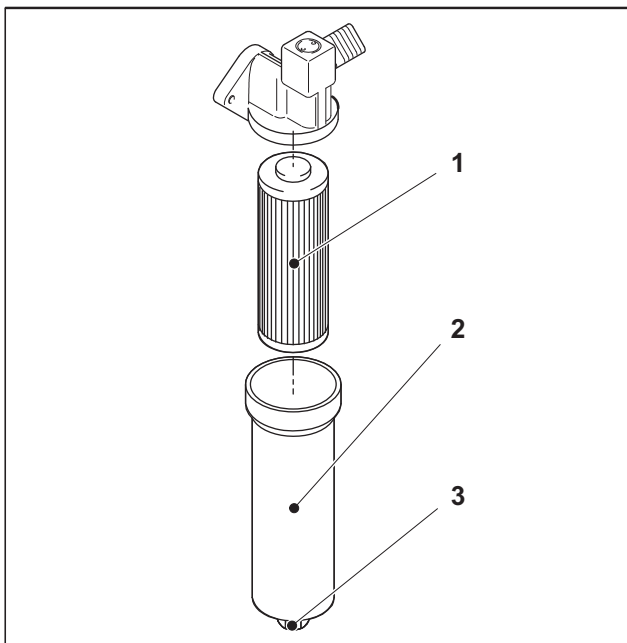

Fig. 7 Filter cartridge of the lubricant filter
2. Unscrew the filter case (Fig. 7/2) on the hexagon (Fig. 7/3).
3. Remove the filter cartridge (Fig. 7/1) from the filter case and then insert a new filter cartridge.